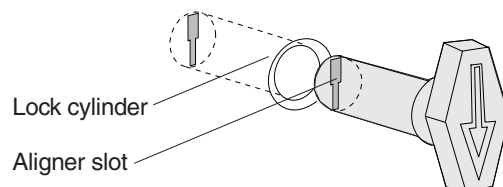

Figure 2-31. Aligner placement
2. Insert the aligner into the empty lock cylinder so that the aligner's slot orientation matches the cylinder's slot orientation (see Figure 2-31).
3. Turn the aligner so that the arrow on the aligner is pointing downward, as shown in Figure 2-31.